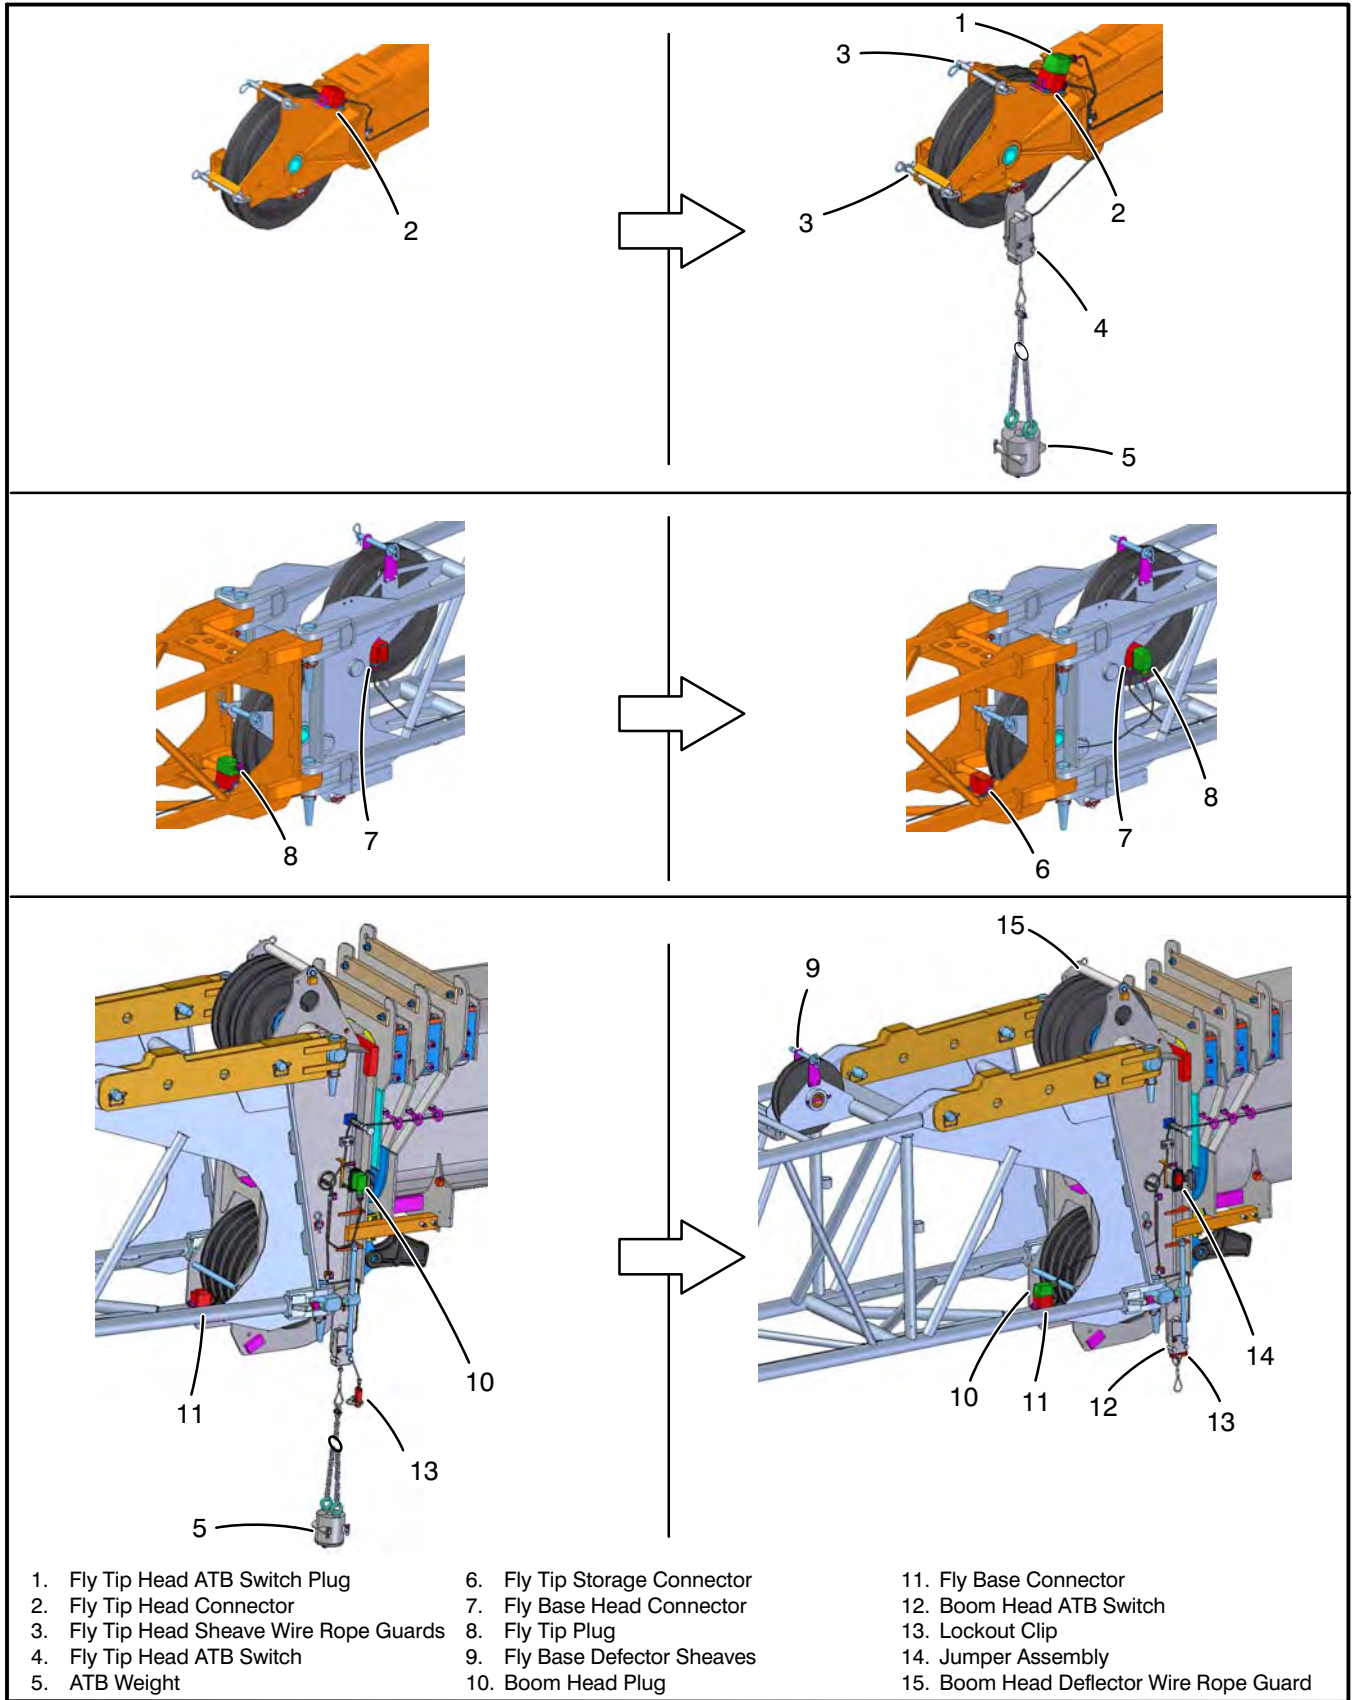

Figure 4–33
10. Remove the wire rope guards from the fly base and boom head deflector sheaves. Refer to Figure 4–33 Reeve the winch wire rope over the boom deflector sheave, then on the fly base deflector sheave.